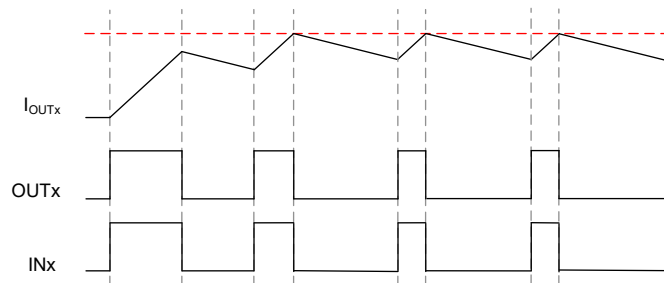
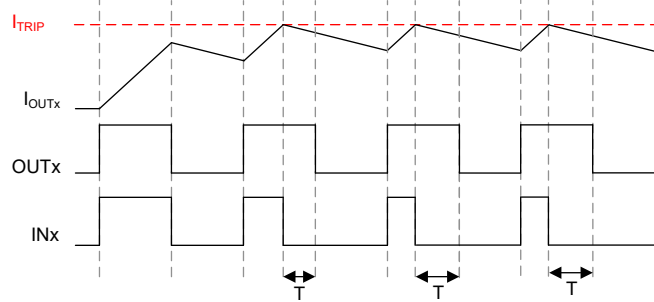

Figure 7-5. Inductive Load Connected to ground, Cycle-by-cycle control
Figure 7-6. Inductive Load Connected to ground, Cycle-by-cycle control
- Loads can also be controlled using the cycle-by-cycle method. When $IN_x = 1$, the current through the load builds up; and when $IN_x = 0$, the current through the load decays. By properly choosing the duty cycle of the IN_x pulse, current can be regulated to a target value. Various such scenarios are shown in Figure 7-5 and Figure 7-6.